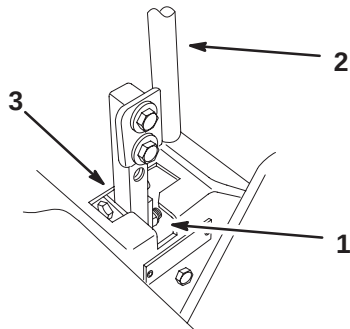

Figure 56
3. Move lever to the neutral position but **not locked** (Fig. 56).
5. Check where the control lever is relative to notch in console (Fig. 56). It should be centered allowing lever to pivot outward to the neutral lock position.
7. Apply slight rearward pressure on the motion control lever, turn the head of the adjustment bolt in the appropriate direction until the control lever is centered in neutral lock position (Fig. 56).